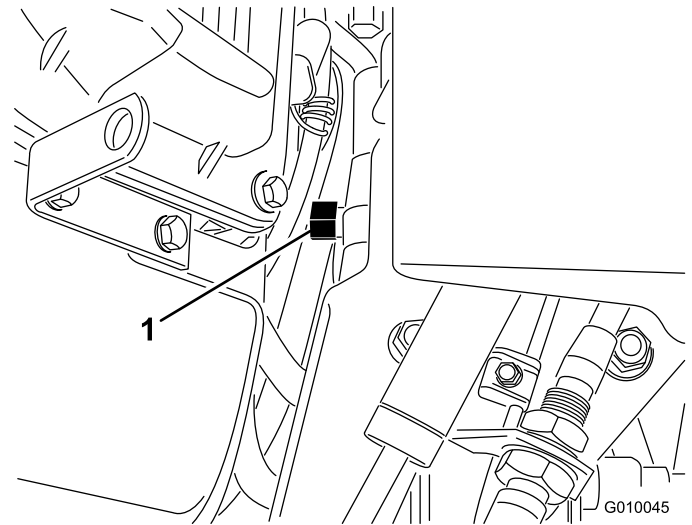

Figure 30
2. Locate the by-pass valve between the engine and hydrostatic pump (Figure 30).
3. Using a 5/8 inch wrench, rotate the by-pass valve counterclockwise 1 turn. This allows the hydraulic fluid to by-pass the pump enabling the wheels to turn (Figure 30).
5. To operate the aerator again, rotate the by-pass valve clockwise 1 turn (Figure 30).